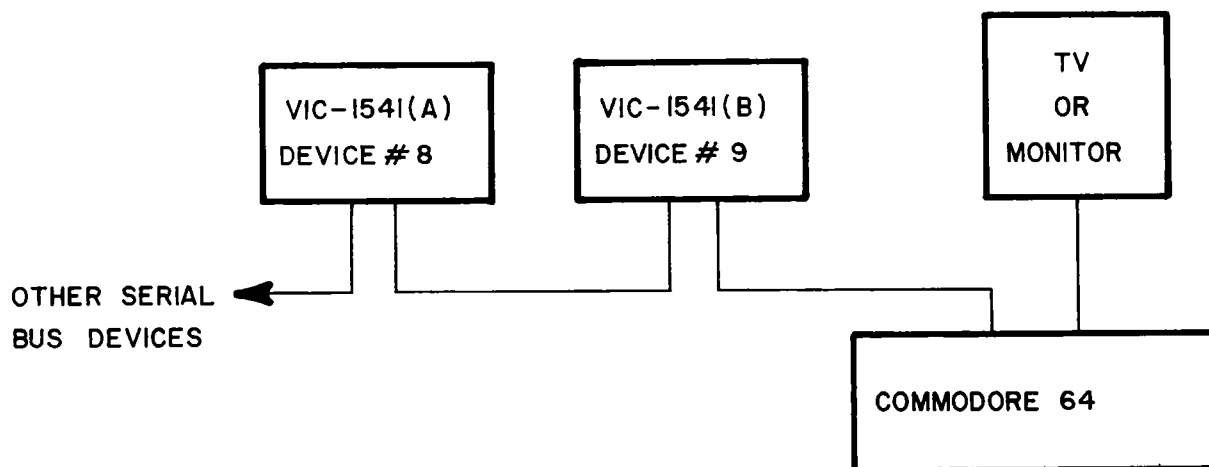

Figure 3-3. Multiple Disk Drive Configuration
Figure 3-3 illustrates a system with two VIC-1541's on line at the same time. VIC-1541 (A) is configured for device #8 and VIC-1541 (B) is configured for device #9. To illustrate the difference in commands required for two or more disk drives, assume that each drive contains a blank disc that is to be formatted. To format the disk in drive (A), the following command in Figure 3-4 could be used: